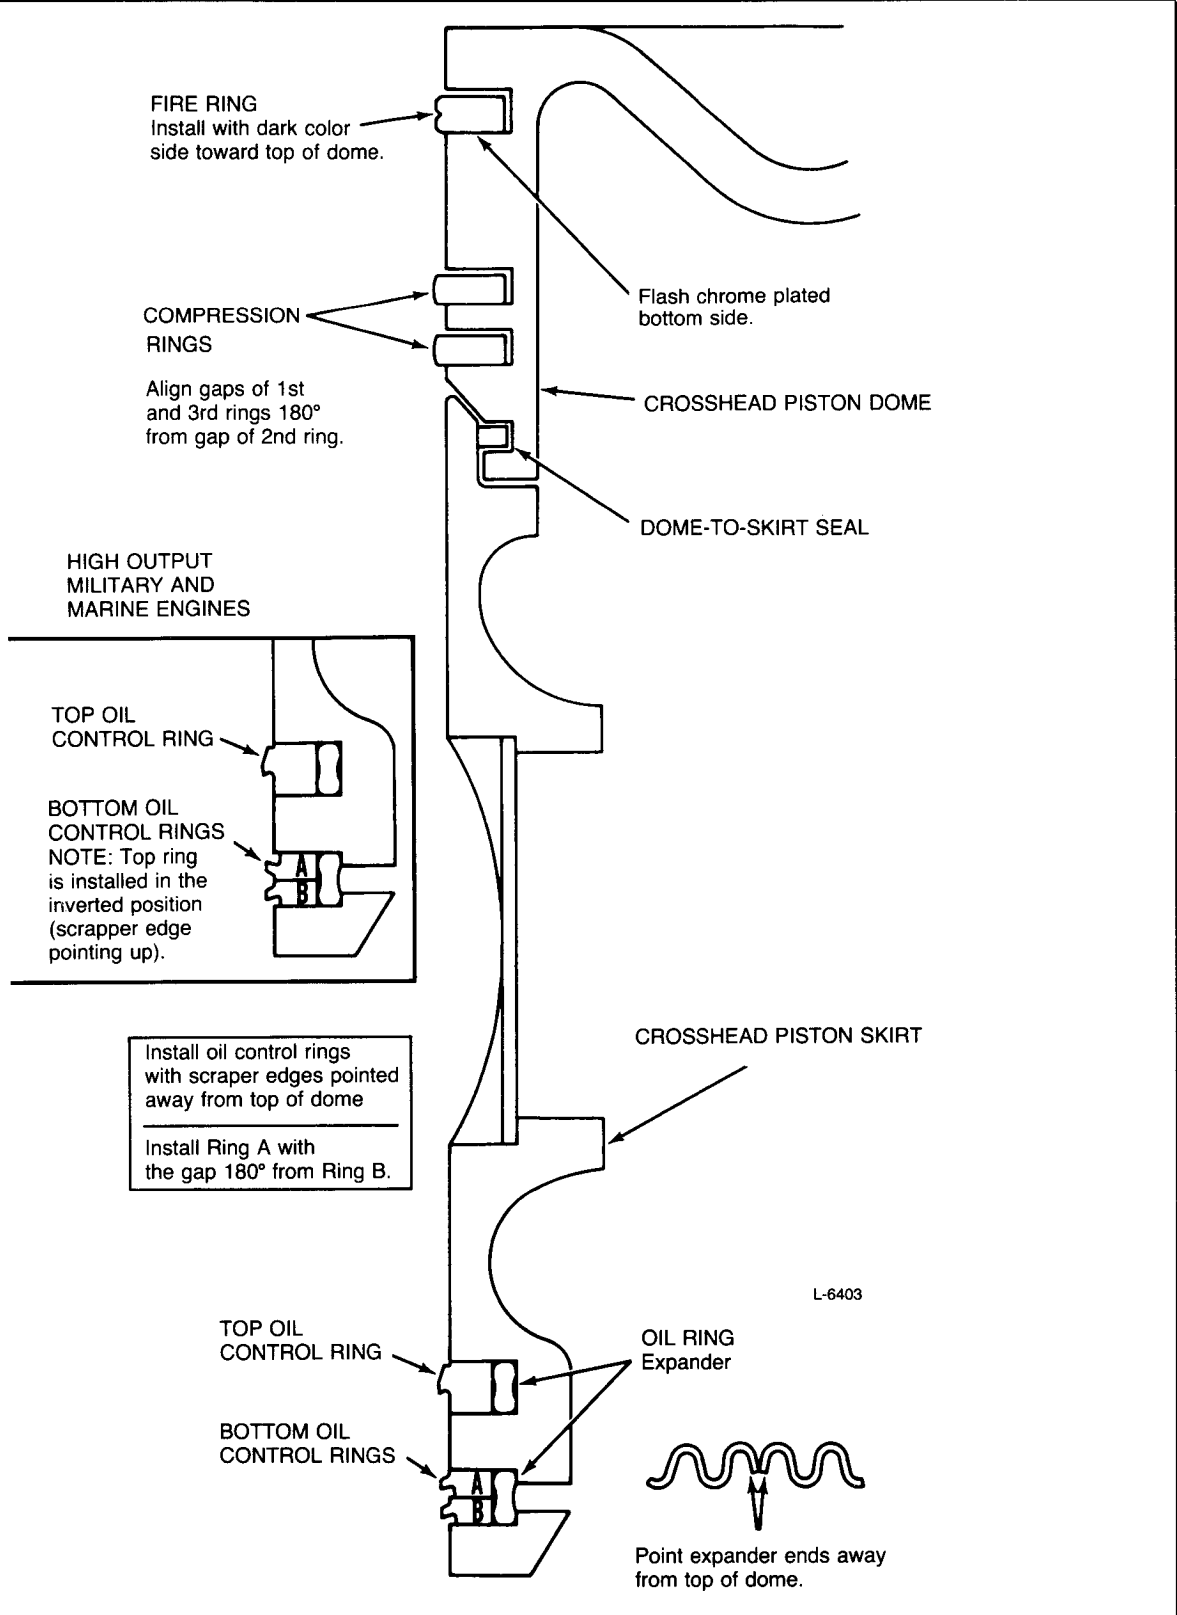

Fig. 22 - Piston Ring Installation Instructions
are used in the cross-head pistons for *turbocharged* engines (Fig. 22).
1. Starting with the bottom ring, install the compression rings with tool J 8128 (Fig. 13). To avoid breaking or overstressing the rings, do not spread them any more than necessary to slip them over the piston. Refer to Fig. 22 for ring identification and location.
Refer to Fig. 22 for the type and location and install the oil rings as follows:
2. Install the oil control rings by hand. Start with the top oil ring and align the gaps as indicated in Fig. 22. The scraper edges of all oil control rings must face downward (toward the bottom of the piston) for proper oil control, except on high output military and marine engines (Fig. 22).